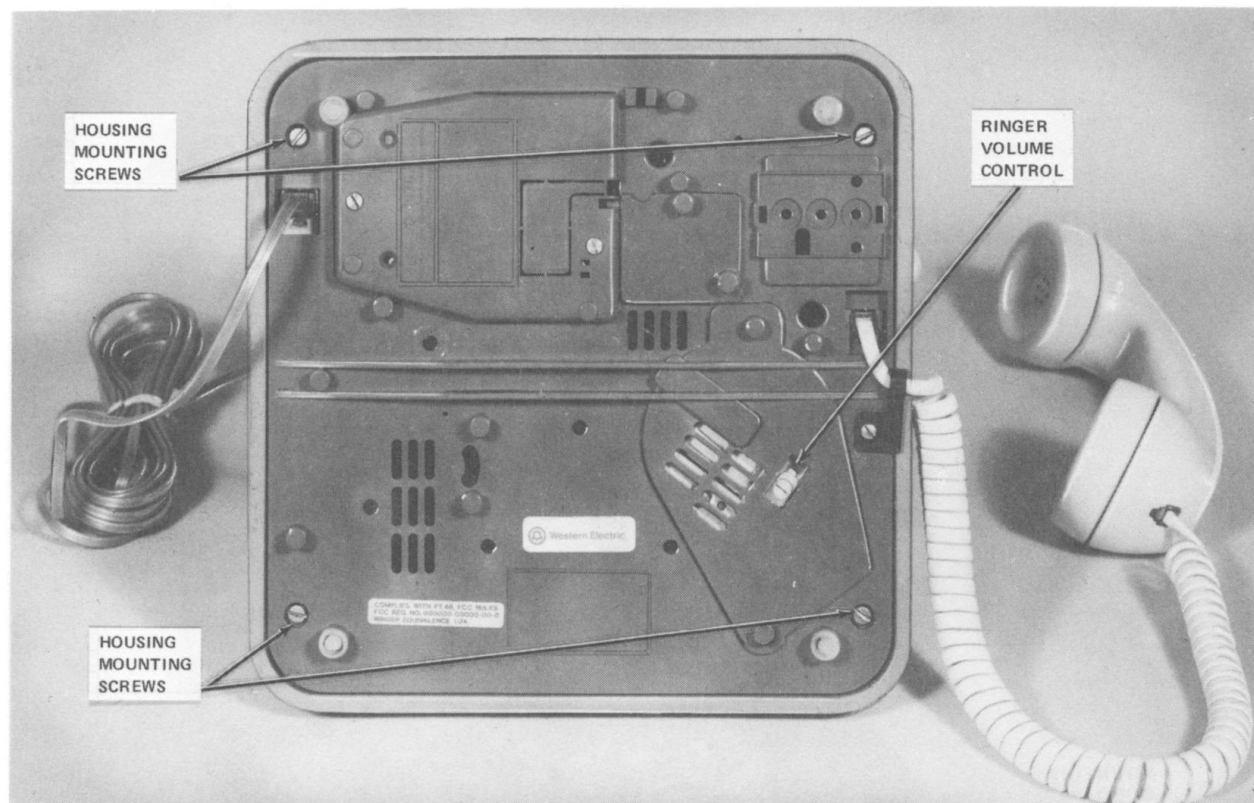

Fig. 2—881C111 or 2881C111 Telephone Set, Bottom View
(1) Remove four base mounting screws from the bottom of the telephone set (Fig. 2) and remove bottom base.